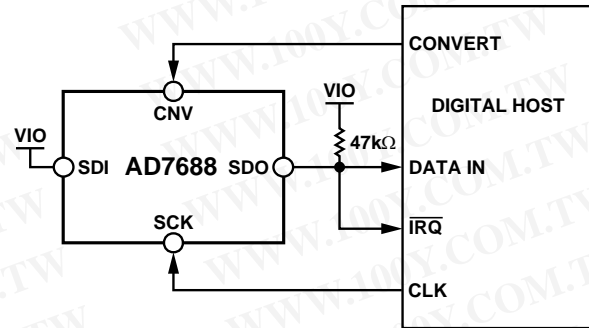
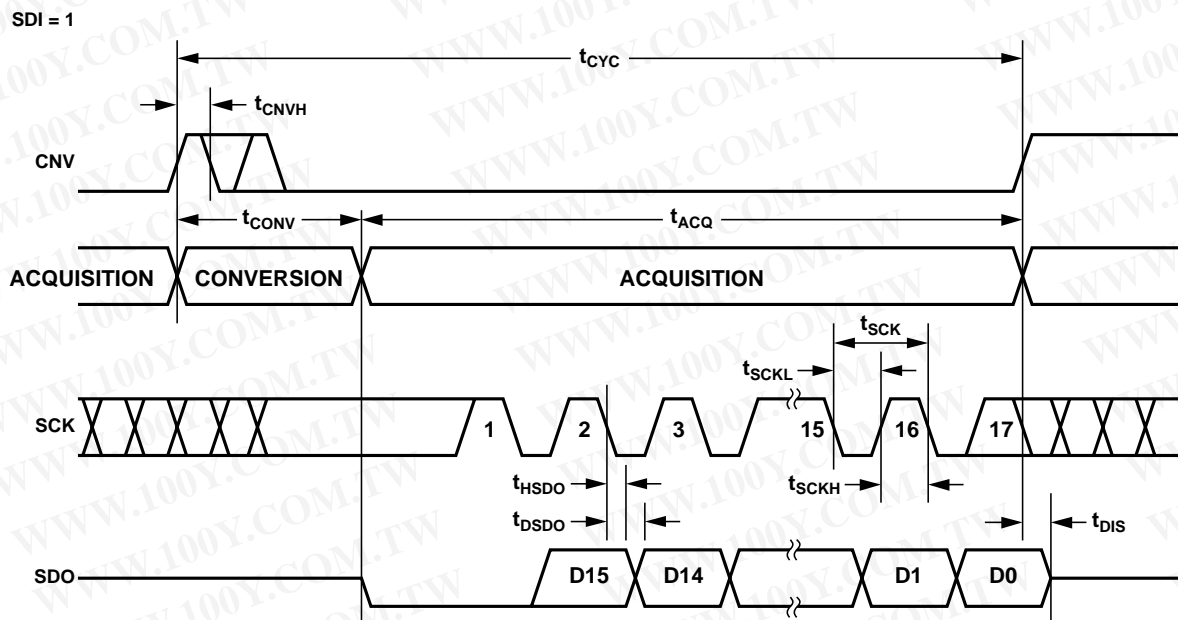
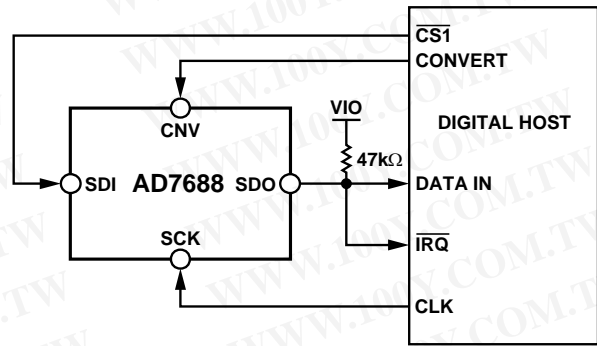
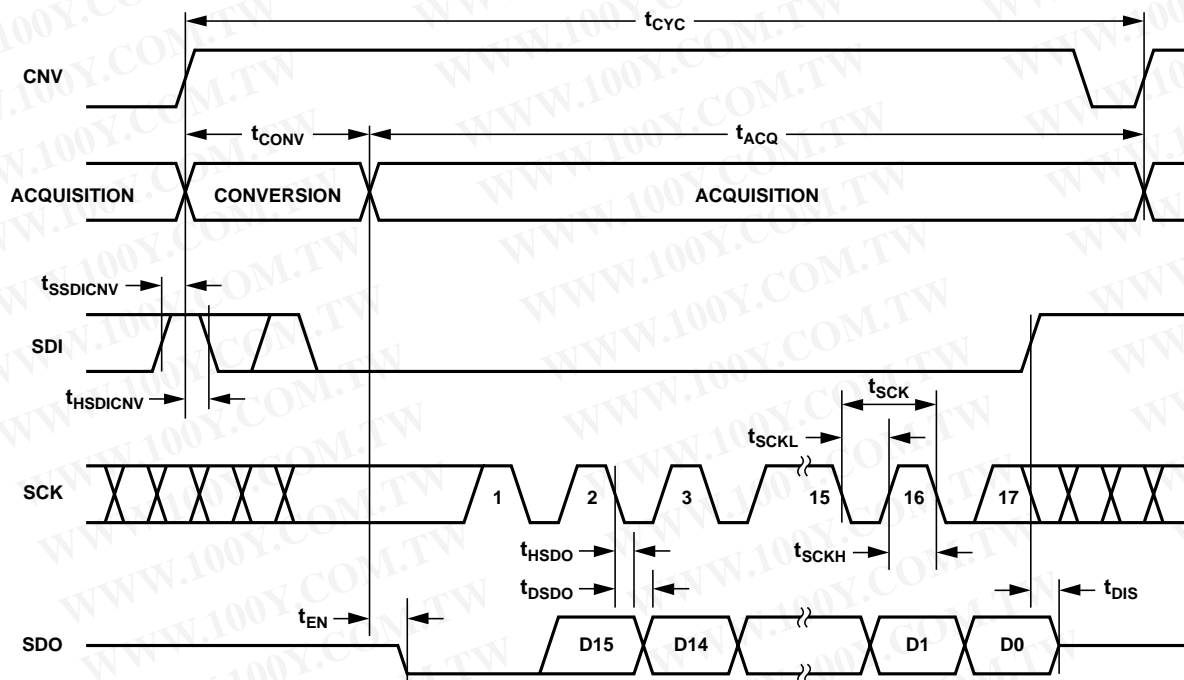

Figure 36.  $\overline{CS}$  Mode 3-Wire with BUSY Indicator Connection Diagram (SDI High)
Figure 37.  $\overline{CS}$  Mode 3-Wire with BUSY Indicator Serial Interface Timing (SDI High)
Figure 40.  $\overline{CS}$  Mode 4-Wire with BUSY Indicator Connection Diagram
Figure 41.  $\overline{CS}$  Mode 4-Wire with BUSY Indicator Serial Interface Timing
- In the  $\overline{CS}$  mode, if CNV or SDI is low when the ADC conversion ends (Figure 37 and Figure 41).
The connection diagram is shown in Figure 36 and the corresponding timing is given in Figure 37.
The connection diagram is shown in Figure 40 and the corresponding timing is given in Figure 41.